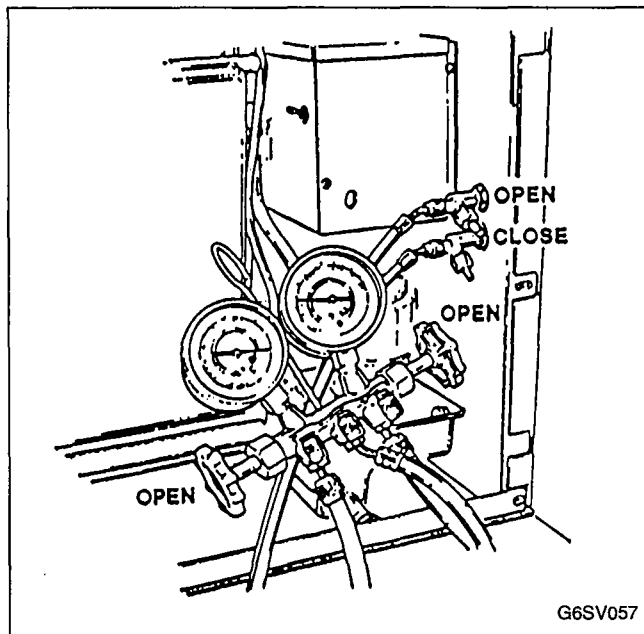

FIGURE 59. INSTALLING MANIFOLD GAUGES
1. Connect high side line to high side service valve at ice machine. See Figure 59.